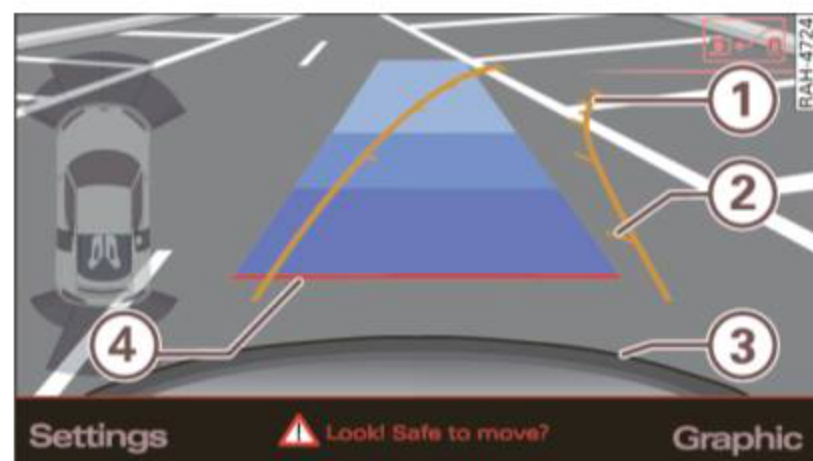

Fig. 76 Navigation system display: Aiming at a parking spot
- Press the **Graphic** control button ⇒ page 92, fig. 76 to see the visual display.
- Turn the steering wheel until the orange orientation lines ① appear in the parking spot ⇒ fig. 76. Use the markings ② to help you estimate the distance from an obstacle. Each marking represents 3 ft. (1 m). The blue area represents an extension of the vehicle's outline by approximately 16 ft. (5 m) to the rear.
- While driving in reverse gear, adjust the steering wheel angle to fit the parking spot with the aid of the orange orientation lines ⇒ !. ③ marks the rear bumper. Stop the vehicle once the red orientation line ④ touches an object ⇒ !.